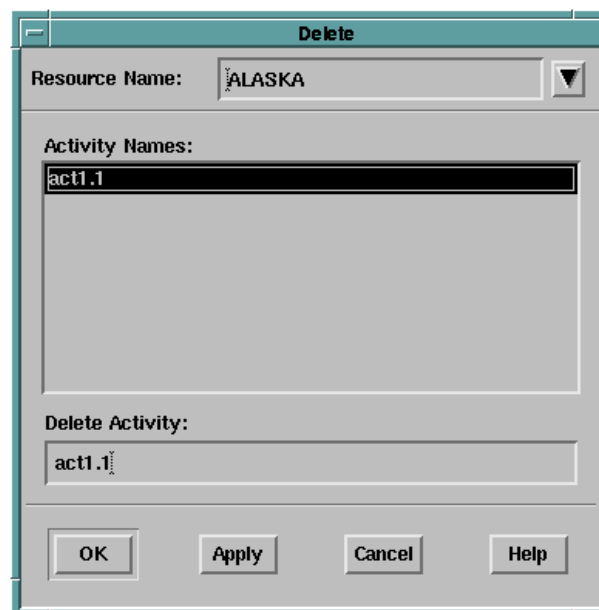

Figure 8.2.5-1. Delete Activity Dialog Box
1. Select **Delete...** from the File menu on the Activity Definer window. The Delete dialog box opens (see Figure 8.2.5-1).